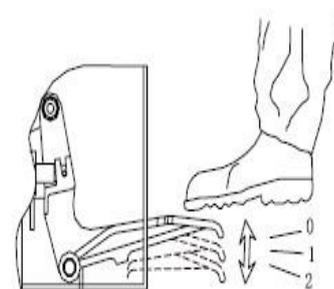
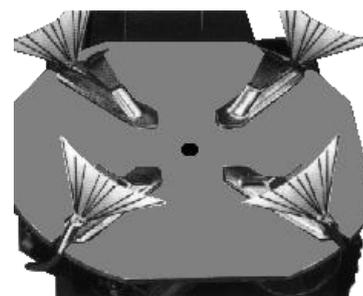

Fig 13
Fig 14
a. Press Rapid Tire Inflation Pedal to the middle position (Fig 13, position 1), the inflating head should give air.
b. Press Rapid Tire Inflation Pedal all the way down (Fig 13, position 2), a strong air blast should come from the holes in the four jaws' locking sliders. (Fig 14)